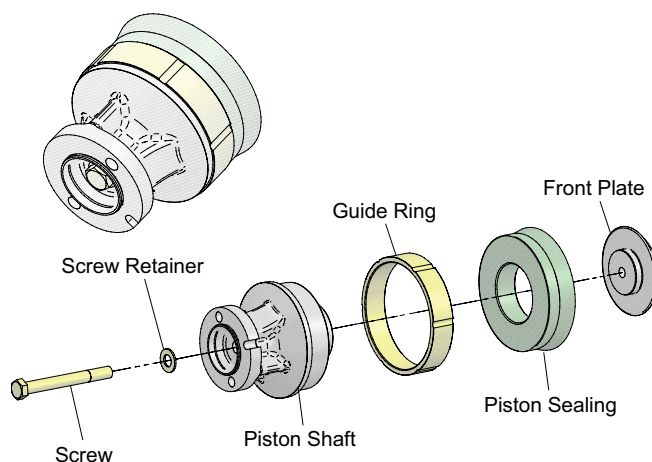

Figure 23
1. Disassemble the ram (Figure 23).